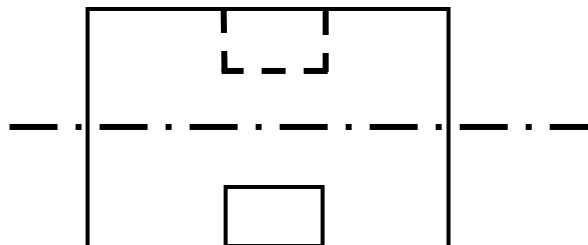

Figure 8
b. Figure 8 shows a Front elevation of another robot part. Identify **ONE** hidden detail line and **ONE** centre line by labelling them using annotations.